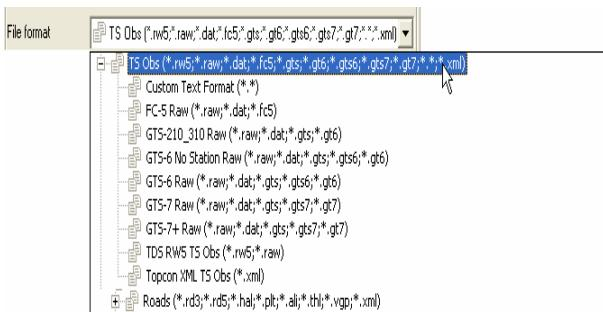

Figure 3-42. File Format List
- the File format (Figure 3-42).